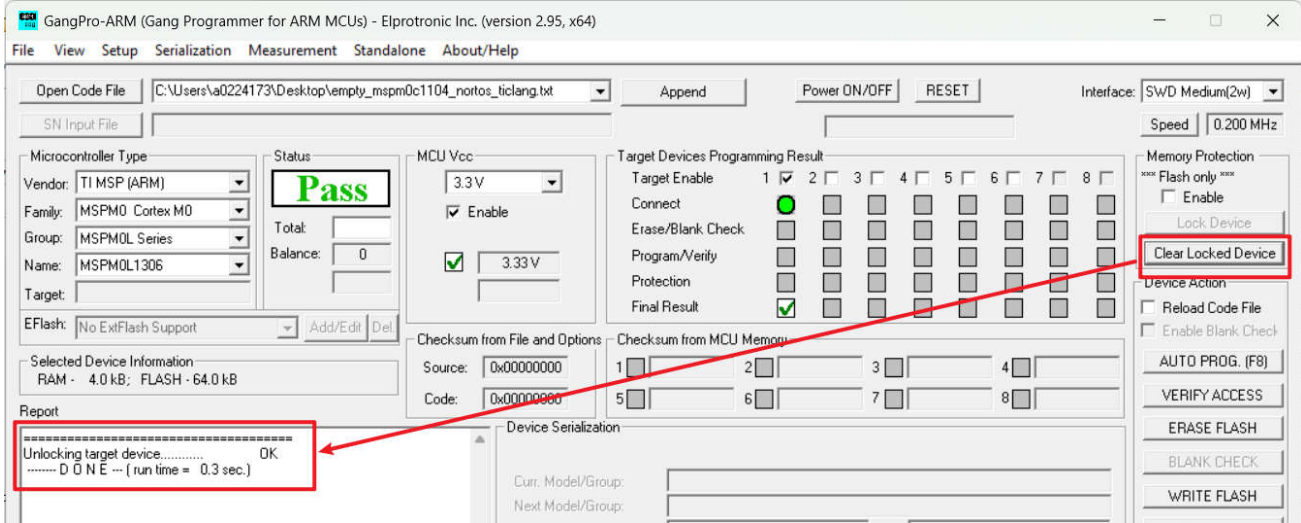

Figure 5-12. Factory Reset with C-GANG
- If the device is locked, C-GANG also support to unlock the device through doing **factory reset**. First, please connect VCC, GND, SWDIO, SWCLK, RST. Then flow the instruction as shown in Figure 5-12.